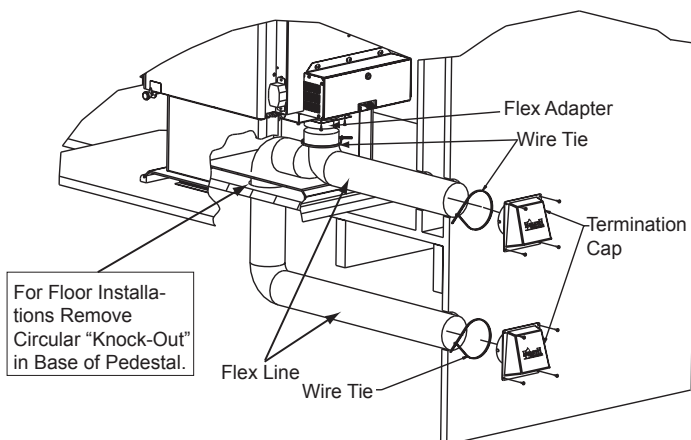
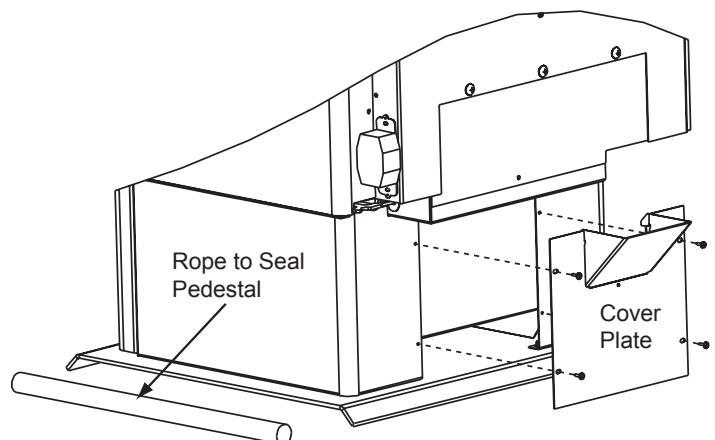

Figure 16.1 - Floor & Rear Installation
Figure 16.2
Included in SRV7033-041: Cover plate and sealing rope (see Floor Installation Alternative below, **Figure 16.2**)
2. Using a #2 Phillips screw driver attach the flex adapter to the appliance using 4 screws (**Figure 16.1**).
5. **Floor Installation Alternative:** In some instances you may not be able to install the flex pipe as show in **Figure 16.1**. If that is the case, you will need to order SRV7033-041 which includes a cover plate and sealing rope as shown in **Figure 16.2**. The goal is to seal the pedestal so no room air can leak into the pedestal or for cold air infiltration.